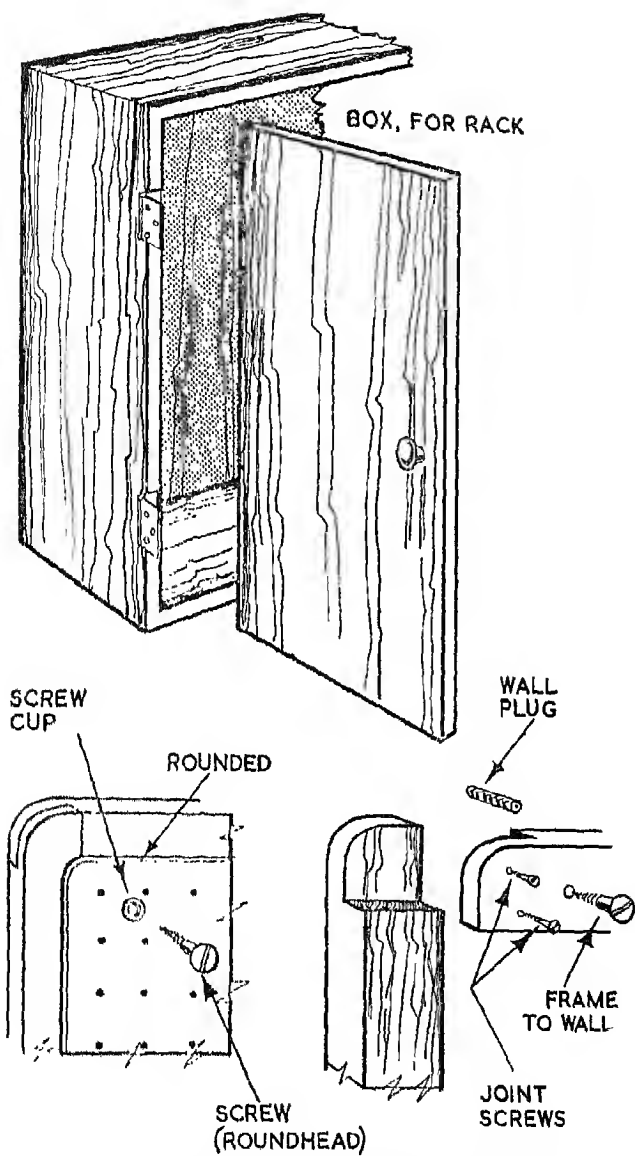

Fig. 7.—Power-tool rack. Details of construction.
Construction is done backwards to usual procedure—the panel is cut to shape before the frame is made; in this way the pegboard can be sawn between the rows of holes with neat edges, instead of ragged edges which might occur if the frame were made first. Note that the panel is slightly smaller all round than the frame (Fig. 7), and allow for this when cutting the pegboard to size. About  $\frac{3}{4}$  in. is a reasonable margin for framing, but this is not critical to the last fraction of an inch.
Finish working the panel by sanding the edges smooth, round off the corners and round over the face sharpness of edges as shown (Fig. 7). Pegboard must be “conditioned” before fixing; this may be done before or after cutting panel pieces to shape. Conditioning consists of swamping the back of the material with water applied with a large brush, or from a watering can. The material should be laid on a flat surface and should be left for about 24 hours before fixing. The object of conditioning is to prevent any undue shrinking or swelling after the pegboard has been fixed to the frame.
The corners of the frame are secured with half-joints, these are shown in Fig. 7 and they are formed by sawing away half the thickness of the timber where the frame-members overlap at the corners. The outside corners of the frame are gently rounded off to finish neatly.
not) it will be necessary to plug the wall before driving fixing screws through the framing. The method of screwing is illustrated in Fig. 7. Drill holes about 9 in. to 12 in. apart, and countersink faces of holes. Position screw-holes so that they are concealed under the pegboard after it has been fitted. The plugging should be substantial—asbestos fibre plugging will grip fixing screws very firmly.
The corners of the frame are secured with screws and glue (Fig. 7). Countersink screw holes. It is best to assemble the frame as it is fitted to the wall surface. Check the position of each piece with the pegboard panelling. Complete the assembly of the frame, fit pegboard to frame then remove it for finishing.
The pegboard is joined to the framework with roundhead screws driven through edge-rows of pegboard holes at about 6 in. apart (see photographs). Each fixing screw is washered with a screw-cup (Fig. 7); this provides a very neat finish and the cups increase the gripping area of the screws. If the rack is a very large one it would be advisable to provide packing pieces spaced out at the back of the pegboard, the purpose of these is to prevent the pegboard sagging inwards under the weight of heavy sets of equipment, but they will not be necessary for small racks. The rack shown in Photo Two has four packing pieces of framing material, glue and pin to pegboard—make them diamond shape not to block the holes.
*Enclosed racks.* If you wish to do so your racks may be enclosed with a simple box and doors. An idea of how this can be done is conveyed in Fig. 7. Secure back edges of box frame to side edges of rack, glue and screw corners. Fit with doors made of frames (with half-jointed corners); face fronts of door frames with plain hardboard, line insides with peg-board to considerably increase your rackage area. If you decide upon the method rackage, which has many advantages (you can lock your tools up) do make certain that the door frames are strongly made and that the hinges are robust.